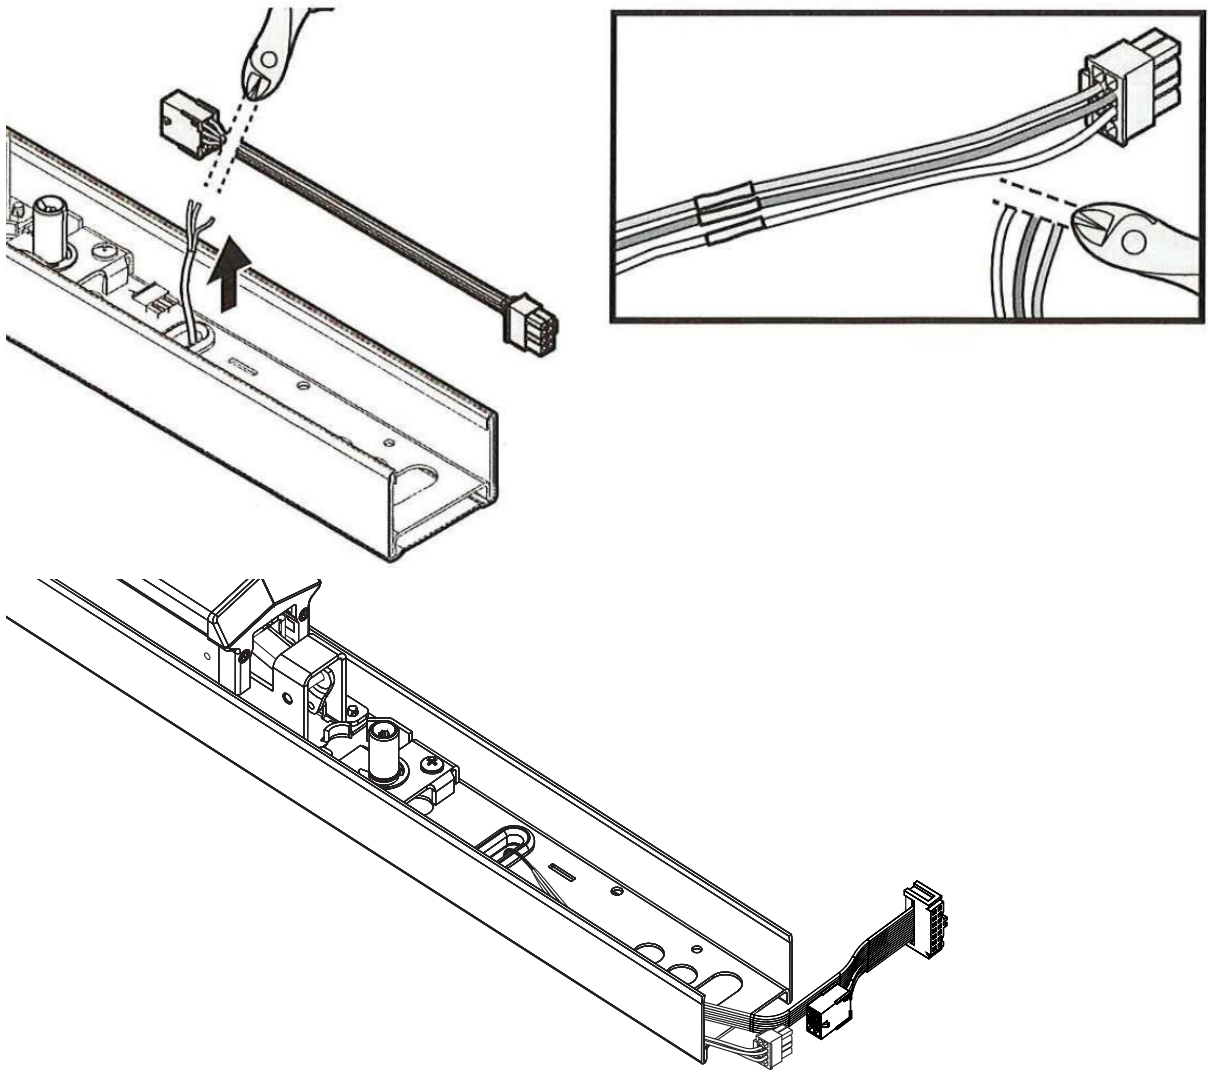

Figure 7 Plugging in the jumper harness
- Plug the jumper harness into the motor harness. See Figure 7 on the next page.
- Connect the switch wire to the motor harness. If required for length, use the provided jumper harness (p/n 60-7700-0970). See Figure 7.
- Plug the jumper harness into the motor harness. See Figure 7.